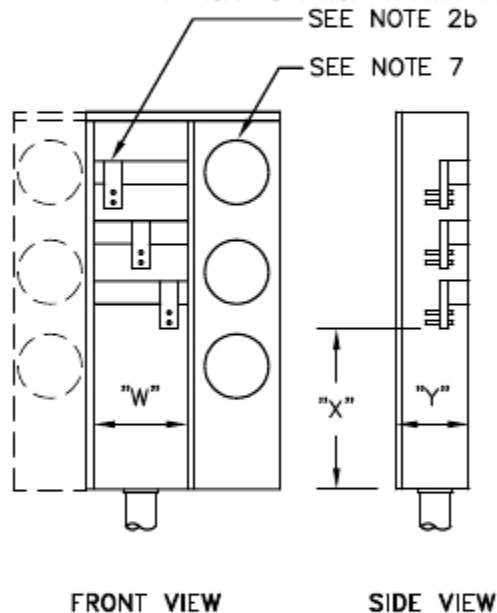

FIGURE 3
- b. For equipment rated 201–600 amperes (Figures 3 and 4), terminations shall be two 1/2-inch steel bolts as shown. See Drawing 347 for additional bolt details and termination clearance and spacing requirements.
6. The minimum pull section access opening (W) is measured between the left side and right side return flanges.